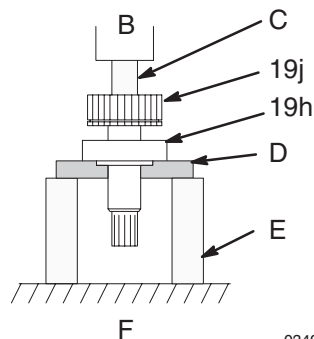

Fig. 11
4. **Using a hydraulic press**, place pieces of steel bar stock on the inner race of the large bearing (19h) and press the shaft through the hub and bearing. See Fig. 11.